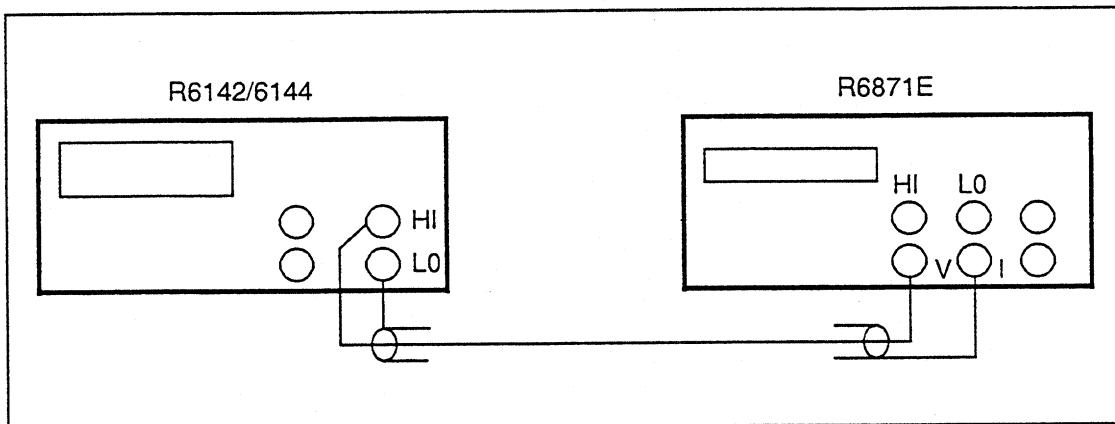

Figure 4-1 Cable Connection for Output Voltage Test
① Connect the R6142/6144 to the R6871E as shown in Figure 4-1.